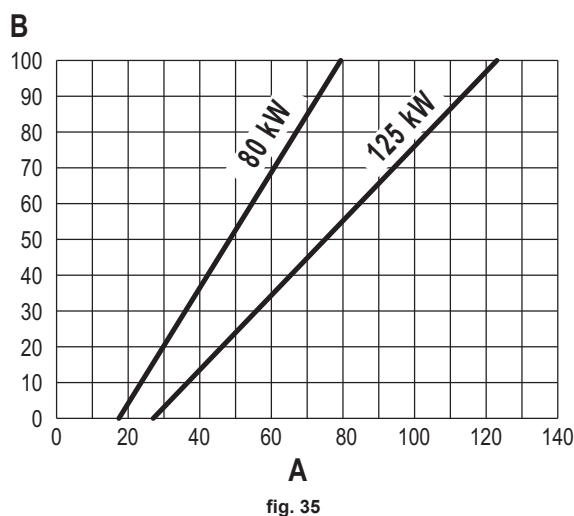

fig. 35
- Press the **heating buttons** (details 3 and 4 - fig. 1) to increase or decrease the power (min. = 00 - max. = 100). See the diagram "Heating Capacity Adjustment" (fig. 35).